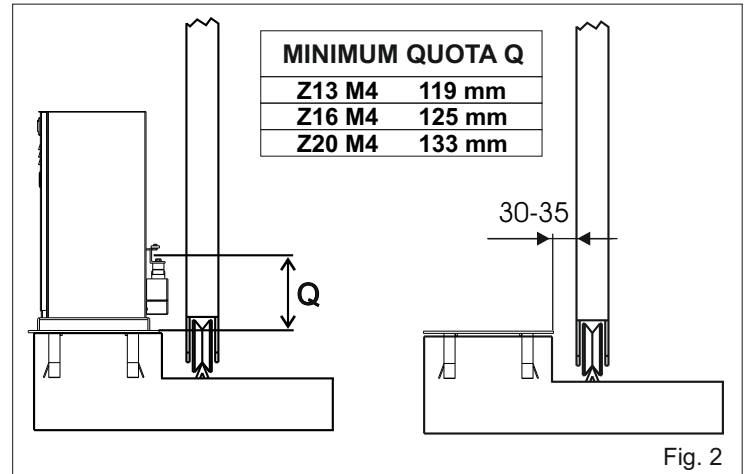
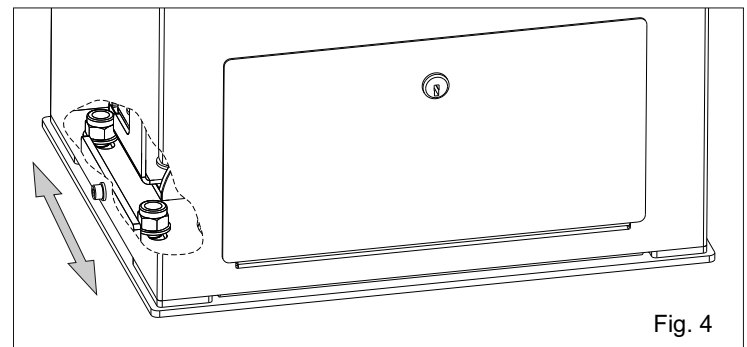

Fig. 2
Fig. 4
- When concreting in the plate check that the plate is perfectly levelled and that the measurement of 30 - 35 mm given in Fig. 2 is followed.
- Fix the motor-reducer to the foundation plate adjusting the side position (Fig. 4) considering the mentioned measurements in Fig. 2.